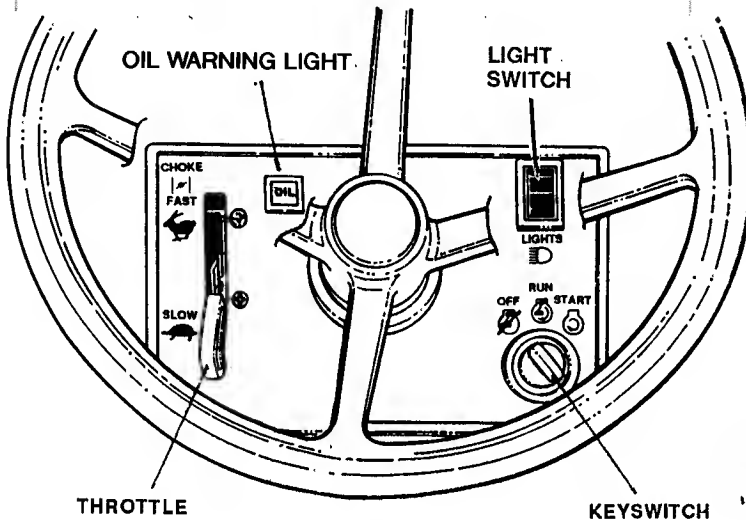

FIGURE 2
ENGINE: *STOP ENGINE* by turning the KEYSWITCH to "OFF". See Figure 2.
2. CHOKE ENGINE for cold starting by moving THROTTLE CONTROL to "CHOKE" position. (Little or no choking will be needed when restarting a warm engine). Refer to Figure 2.